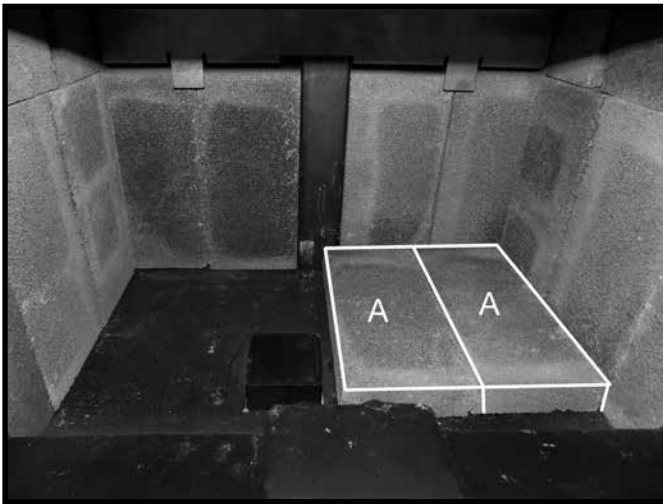

Figure 35: First two floor bricks in place.
- Place two "A" firebricks on the firebox floor as shown in (Figure 35). on page 29
- Place 4 "A" firebricks on the firebox in the same direction as the bricks in (Figure 35) . Push bricks to the back of the firebox.